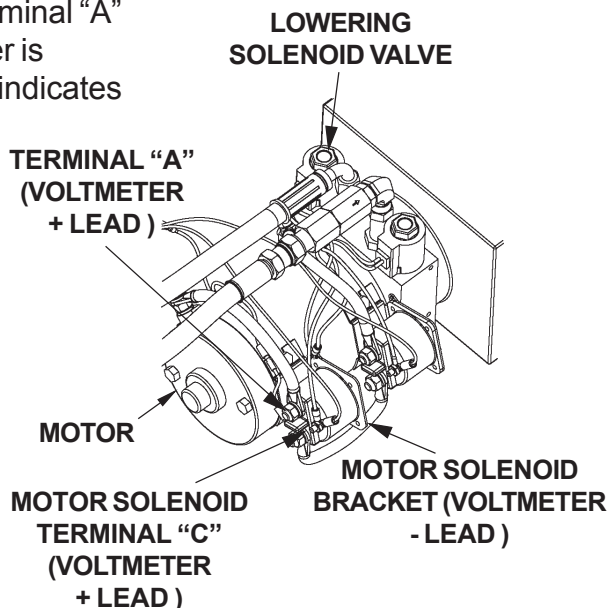

FIG. 10
1. Connect voltmeter between Motor Solenoid Terminal "A" and Bracket (**FIG. 10**) to verify that battery power is getting to "A". Recharge the battery if voltmeter indicates less than 12.6 Volts DC.
3. Check if Lowering Solenoid Valve is getting power. Connect voltmeter between Motor Solenoid Bracket and Motor Solenoid terminal "C" (**FIG. 10**). Push Control Switch to "**LOWER**" position to energize Lowering Solenoid. If voltmeter reads battery voltage (+12.6 Volts DC minimum), control circuit is operating correctly (replace Lowering Solenoid). If voltmeter reads 0 Volts, check if toggle switch and wiring are faulty.